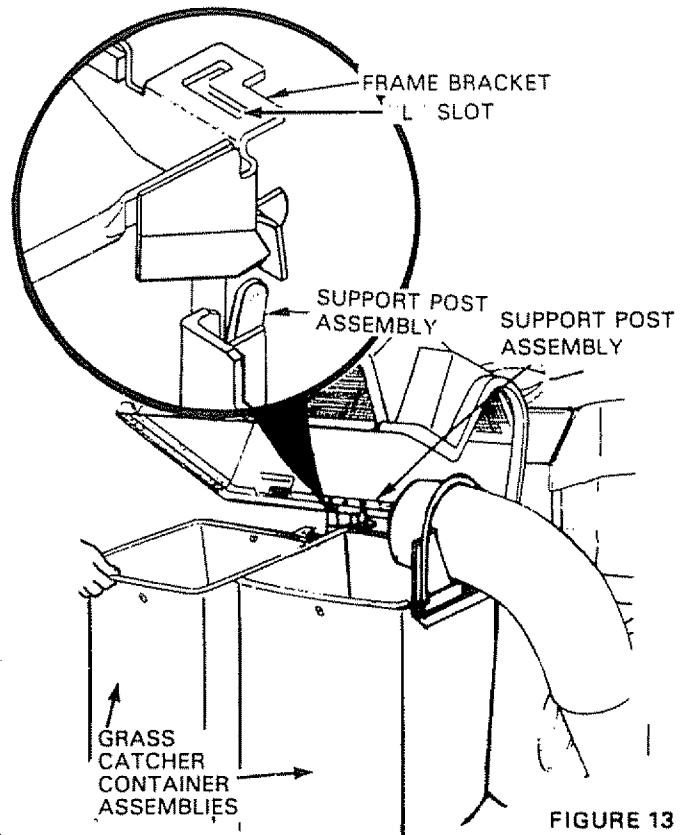

FIGURE 13
12. Position the grass catcher container assemblies onto the support posts through the "L" slots (Fig. 13 - Inset)